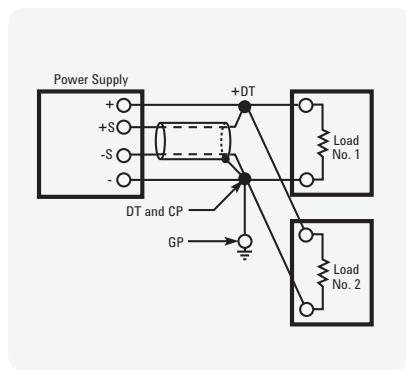

Figure 12
STEP 8. Remove the jumper connections between the power supply sensing and output terminals, and connect the power supply sensing terminals to the DC distribution terminals as shown in Figure 12.